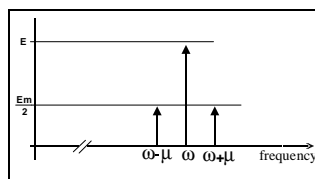

Figure 4: AM spectrum
You can see this by expanding eqn. (2). The spectrum of an AM signal is illustrated in Figure 4 (for the case $m = 0.75$). The spectrum of the DSBSC alone was confirmed in the experiment entitled *DSBSC generation*. You can repeat this measurement for the AM signal. As the analysis predicts, even when $m > 1$, there is no widening of the spectrum.